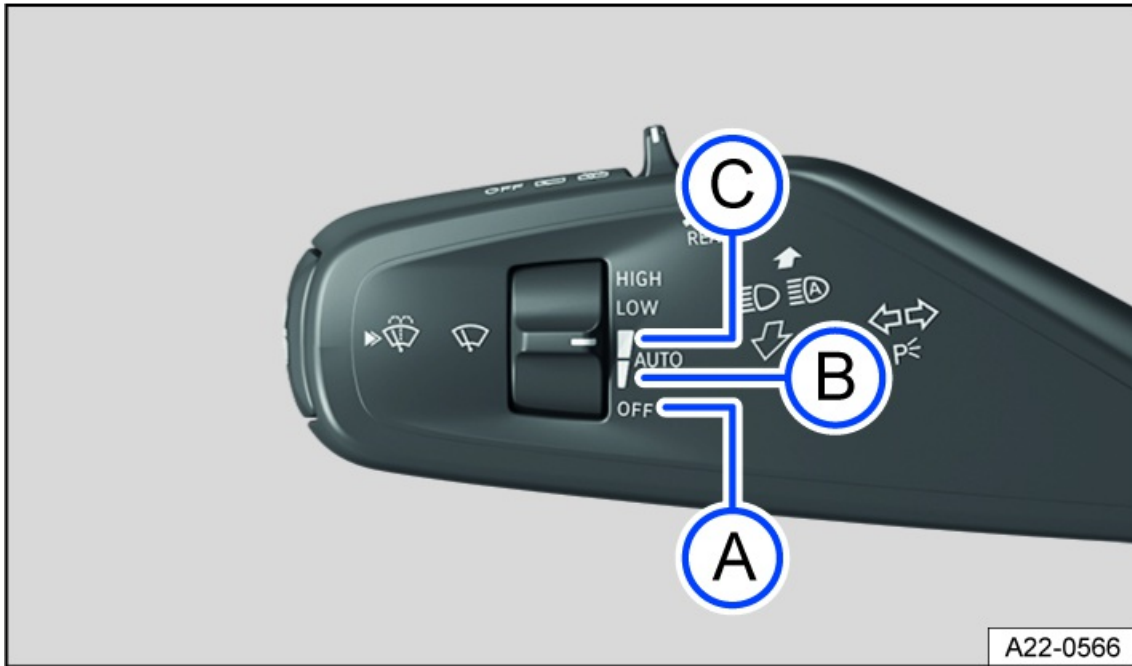

Fig. 75 On the left-hand side of the steering column: lever for turn signal, high beam and windshield wiper.
2. Turn the switch to the required position fig. 75:
1. Turn the switch to position fig. 75.